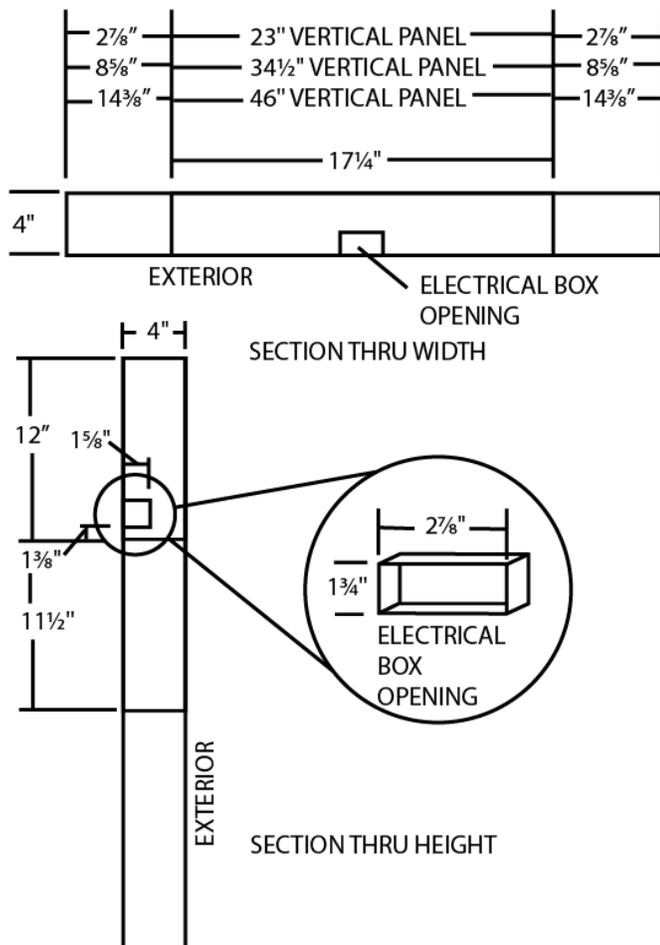

Figure 1
1. Mark on a vertical panel the required openings as shown in Fig. 1. (Since these port doors open when interior air pressure changes the pressure relief port should be installed in a wall where it will not interfere with personnel or accessories.)